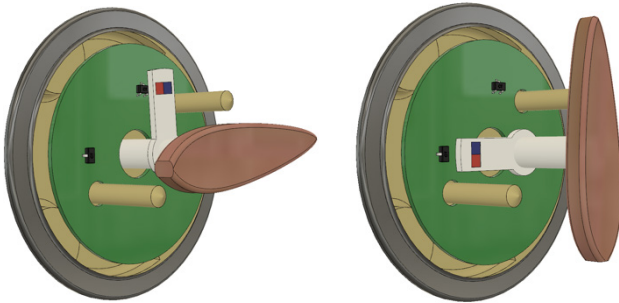

Figure 2: Cylinder Rotation Sensing Example
- Sensing cylinder rotation position, as shown in Figure 2; or